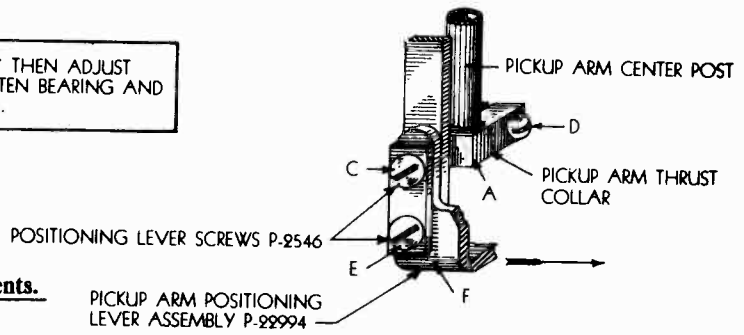

Fig. 25 - Diagram of Pickup Arm Adjustments.
- Loosen Screws "C" and "E", Fig. 25, and move pickup arm positioning lever to right for bringing needle towards starting groove of record. Moving this lever to left brings needle towards edge of record. Tighten screws after each adjustment.
- Test to be sure pickup arm swings freely on its bearings and is not binding. There should be a slight up-and-down play on ball bearing, Fig. 25. This play can be obtained by adjusting pickup arm thrust collar as described in paragraph "a" Section 21.
- Raise this arm bodily by first loosening the two retaining screws "C" and "E", Fig. 25, setting to the correct position and then tightening the two screws. The correct height is checked by observing the movement of the lug "H" Figs. 9 and 10 on the Automatic Clutch Pawl. When the pickup head is swung in close to turntable spindle, lug "H" should be raised so as to clear the end "K" of the clutch dog at least 1/32 inch. End of long tripping lever "G" Fig. 9 should not be raised high enough to bind on end "F" of Automatic Clutch Pawl. When making adjustments of pickup arm tripping lever, Fig. 9, be sure that other branch of this lever (pickup arm positioning lever, Fig. 6) is correctly positioned with respect to the cam wheel surfaces before tightening the two lever retaining screws "C" and "E", Fig. 25. The end of this positioning lever should pass over the tops of lugs "L" Fig. 6, without touching. (About 1/32" clearance).
(a) Pickup arm thrust collar "A", Fig. 25, is too tight against friction washer "B", Fig. 25.
- Adjust thrust collar "A" Fig. 25 so as to allow a slight clearance. In making this adjustment first loosen screws "C" and "D" so as to release thrust collar "A". Be sure to leave screw "E" tight so as not to change adjustments of Pickup Arm Positioning Lever "F" Fig. 25. Do not leave bearing too free.
(b) Pickup arm shaft needs lubrication at guide bearing "G" Fig. 25.